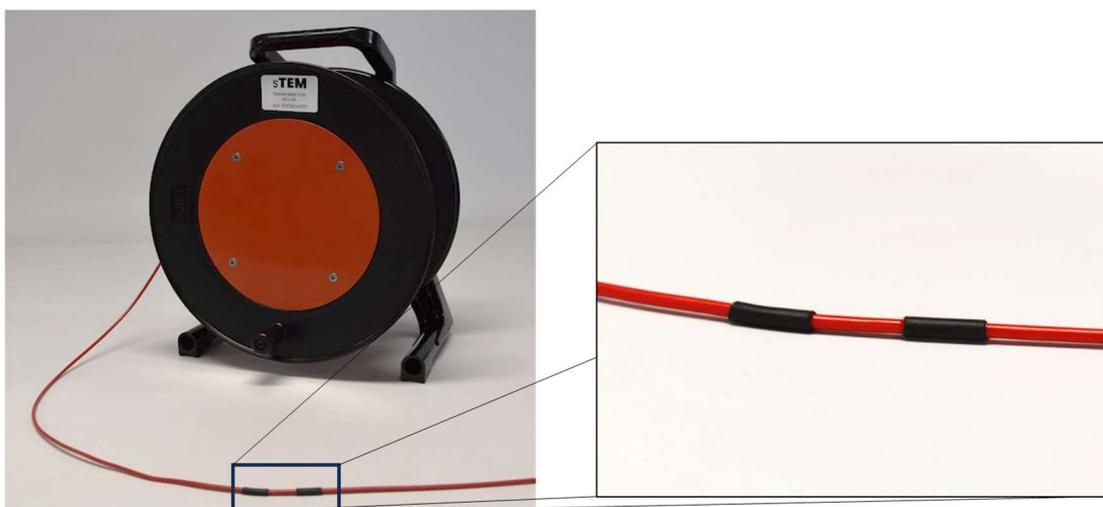

Figure 7. Tx coil corner marker.
- Black corner markers on cable to form a square loop (see Figure 7).
- Insert two RRC 2054-2 batteries in the battery slots in the sTEM unit (see Figure 7).
The third LED light is GPS lock indicator (see Figure 7).